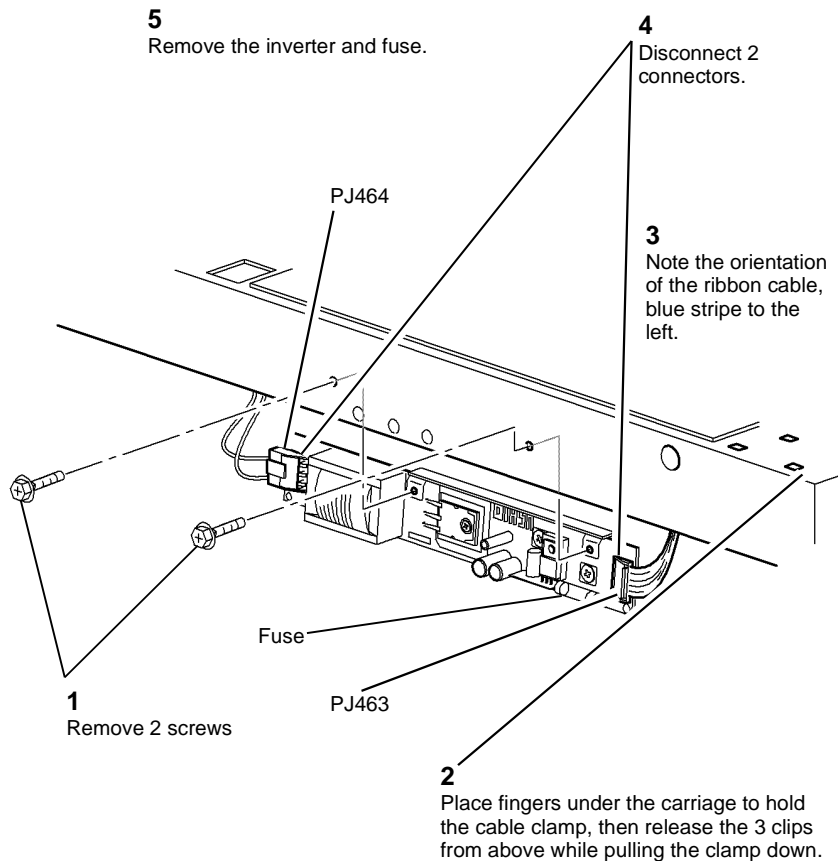

Figure 1 Inverter and fuse
2. When re-connecting the ribbon cable into PJ463, the blue band printed on the cable must face to the left, when viewed as shown in Figure 1.
3. Figure 1, ensure the ribbon cable is folded correctly in the cable clamp. Engage two of the cable clamp clips in the carriage holes. Bend the clamp to engage the third clip.